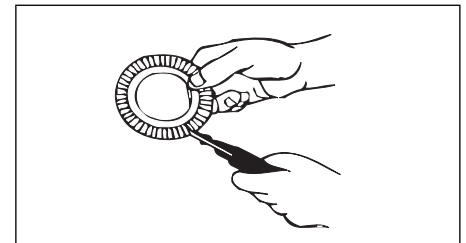

Figure 3
7. Remove the shim from template and using a side cutter, nip the very edge of the slots on either side of the tabs you wish to remove. (this will split the membrane) Next, grasp the tabs with the side cutter and bend **downward** to break tabs at the relief line causing them to neatly separate from shim body. **(Fig. 3)**